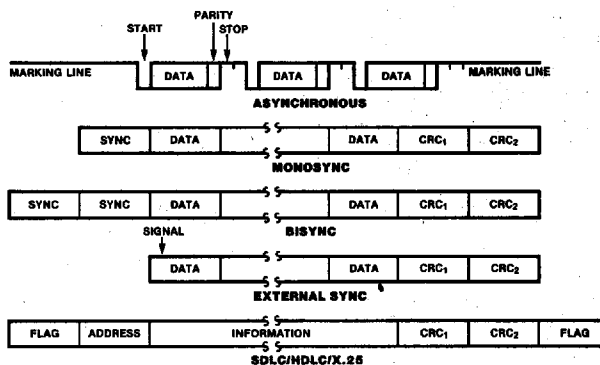

Figure 3. Some SCC Protocols
**Data Communications Capabilities.** The SCC provides two independent full-duplex channels programmable for use in any common Asynchronous or Synchronous data-communication protocol. Figure 3 and the following description briefly detail these protocols.